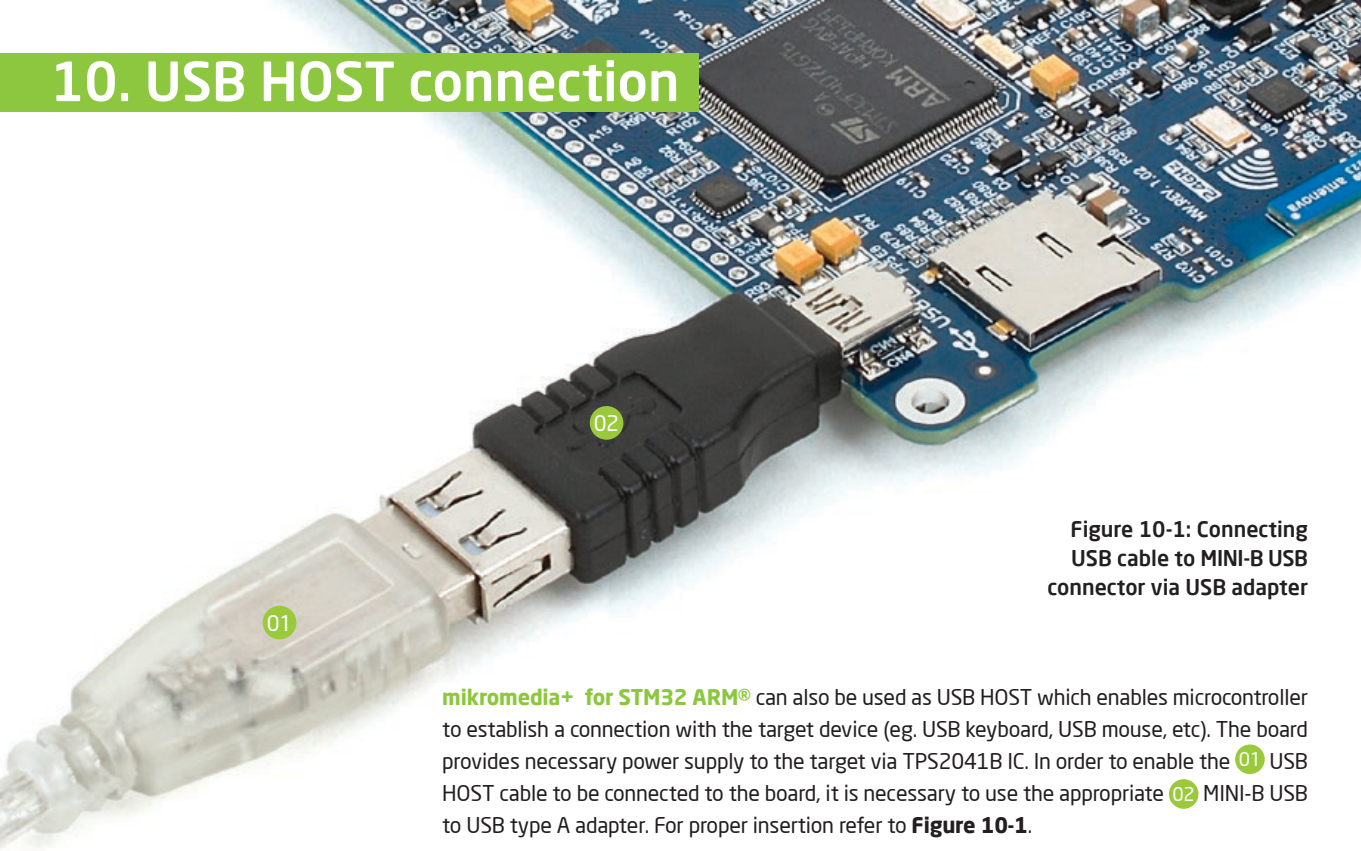

Figure 10-1: Connecting USB cable to MINI-B USB connector via USB adapter
**mikromedia+ for STM32 ARM®** can also be used as USB HOST which enables microcontroller to establish a connection with the target device (eg. USB keyboard, USB mouse, etc). The board provides necessary power supply to the target via TPS2041B IC. In order to enable the **01** USB HOST cable to be connected to the board, it is necessary to use the appropriate **02** MINI-B USB to USB type A adapter. For proper insertion refer to **Figure 10-1**.